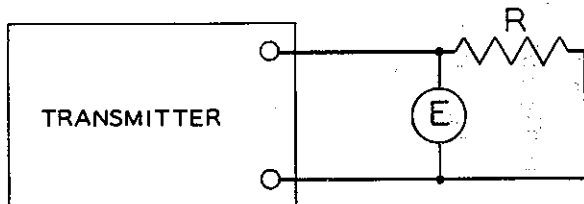

Fig. 2-1.  $E^2/R$  Method of Power Measurement
a. The power dissipated in a resistor is given by the relation  $W = E^2/R$ , where E is voltage across resistance R and is shown in Fig. 2-1. One of the oldest methods of measuring transmitter power at low radio frequencies depends upon this relation.
(1) The voltmeter E of Fig. 2-1 may be equipped with a direct-reading scale in watts, for use with a definite load resistance R. This scale would be linear in watts if the voltmeter were of the square law type similar to thermocouple or iron vane meters.